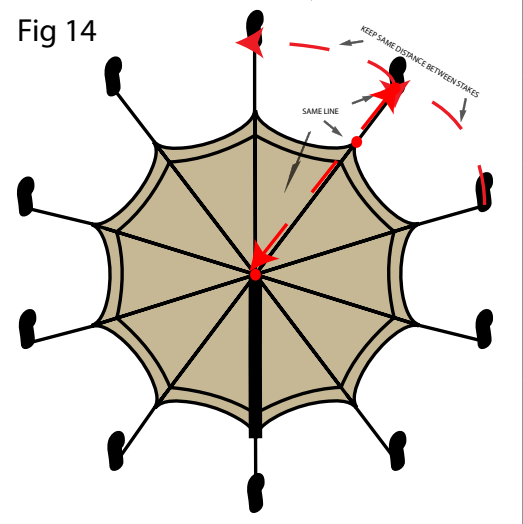

Fig 14
- Place roof stakes clockwise or counterclockwise in the ground (Explorer 2m, Clan 2.5m, Legion 3m, Tribal 4m) away from the Gome walls and tie the ropes around them. (Fig 14)